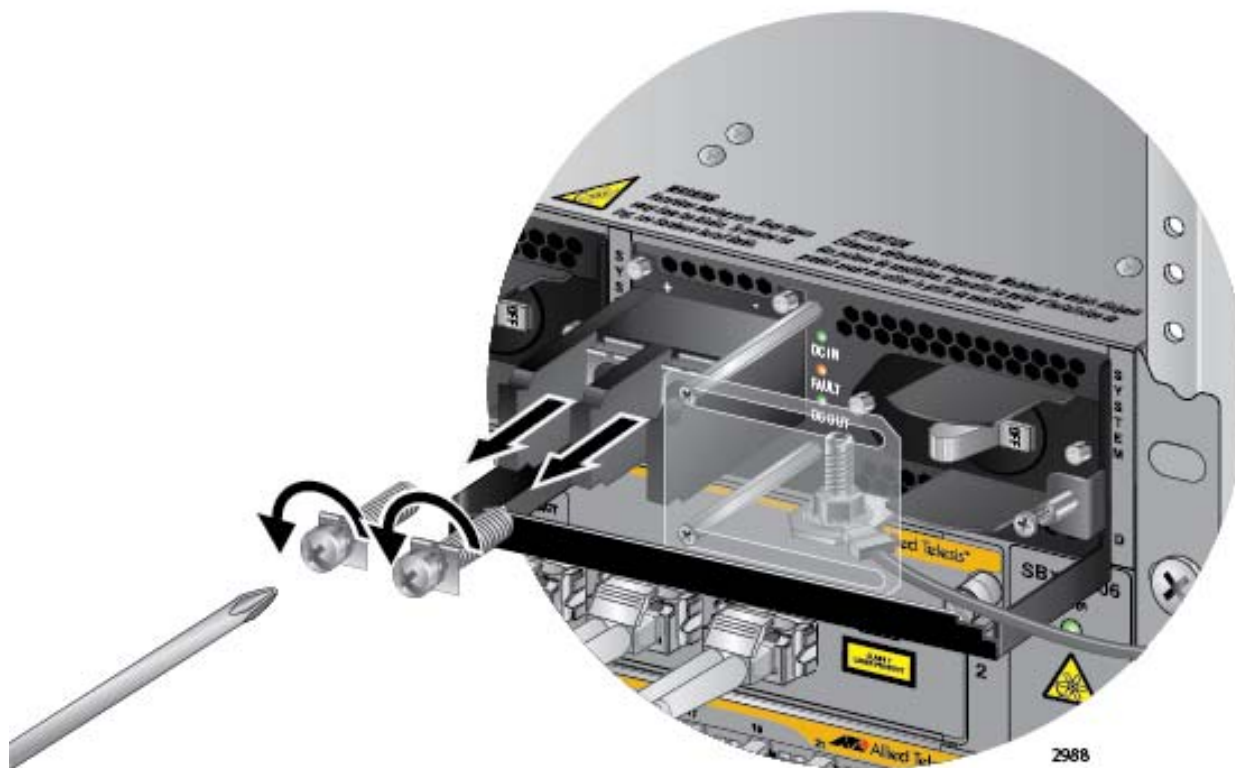

Figure 127. Removing the Terminal Screws
5. Use a #3 Phillips-head screwdriver to remove the two screws from the positive and negative terminals, as shown in Figure 127 on page 194.
3. Use a #3 Phillips-head screwdriver to remove the two screws from the positive and negative terminals, as shown in Figure 127 on page 194.